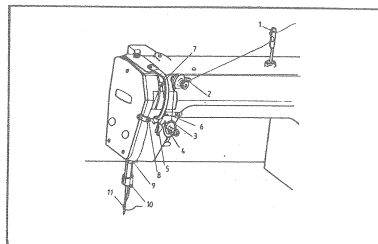

Fig. 13
- 7) Threading the Needle Thread Thread the Needle Thread in the order of the numbers indicated in Fig. 13.